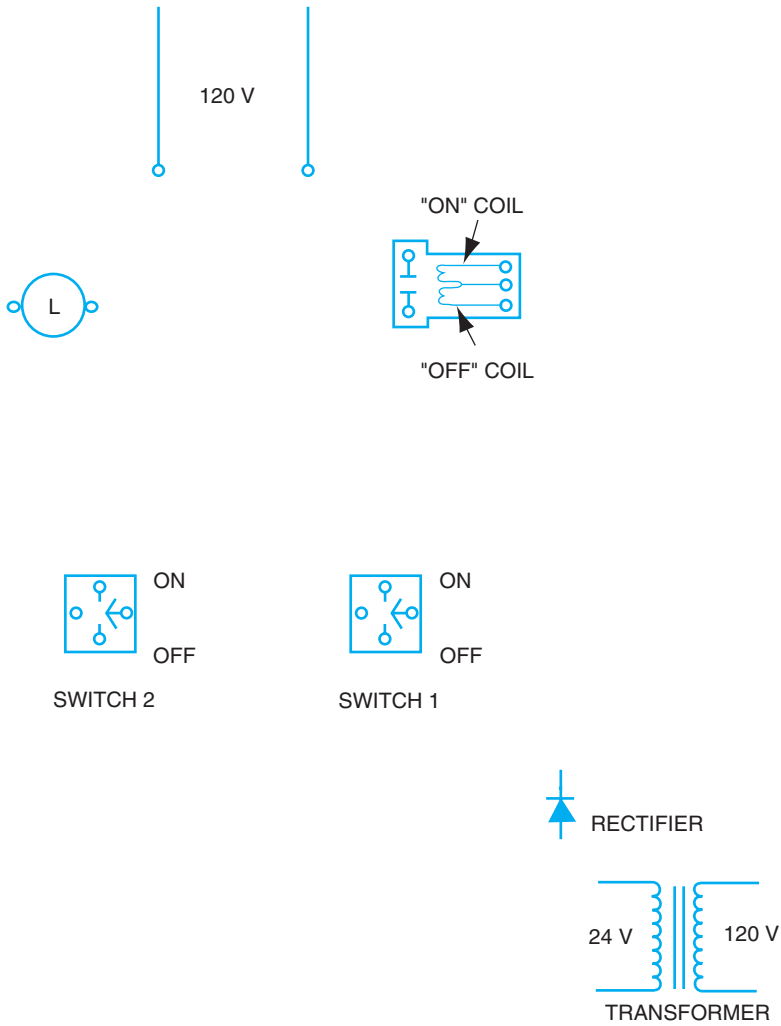

Figure 19-9 Remote control.
10. Draw a remote control wiring diagram to control one light from two switch points with the devices shown in Figure 19-9.